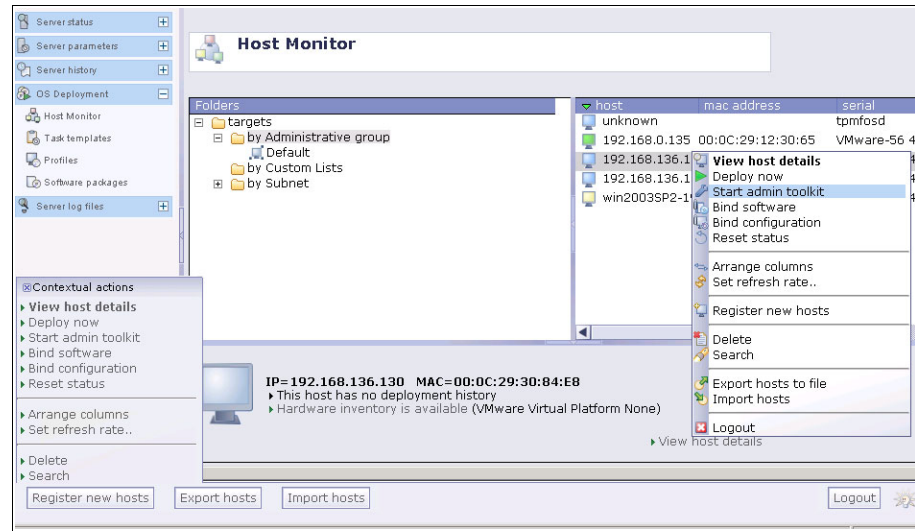

Figure 3-6 Starting the admin toolkit
2. Login to the server Console and select the **OS Deployment** → **Host Monitor** in the left panel. Select the newly discovered system in the Host Monitor's host view and choose **Start admin toolkit** from the left panel menu. Or, right-click on the discovered host and select **Start admin toolkit** from the pop-up menu as shown in Figure 3-6 on page 60.